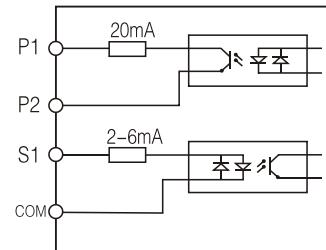

figure4
Step 4. Connect the CN1 connector to power cable while CN2 connector to signal cable (see figure 4) Caution: The maximum current for each tensioner is 2A For multiple control of tensioners, the rating power or current is decided by the number of tensioners (or axis of winders) with below reference: